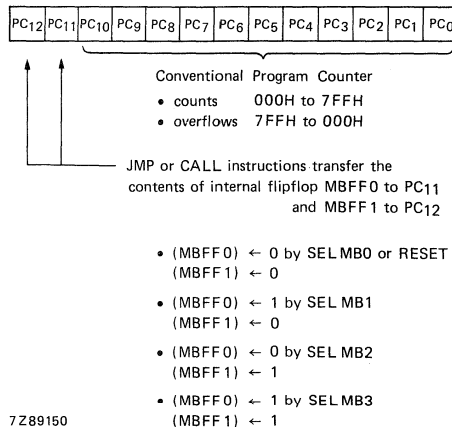

Fig. 19 Program counter.
**Program counter** (see Fig. 19)
A 13-bit program counter is used to facilitate 8 K bytes of ROM being addressed. The arrangement of the bits is shown in figure 19. During an interrupt subroutine PC11 and PC12 are forced to logic 0. All 13 bits are saved in the stack during CALL and interrupt routines.